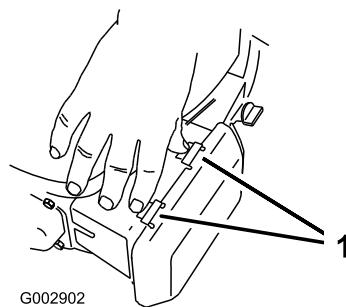

Figure 37
- Press down on the latch tabs on top of the air-cleaner cover (Figure 37).